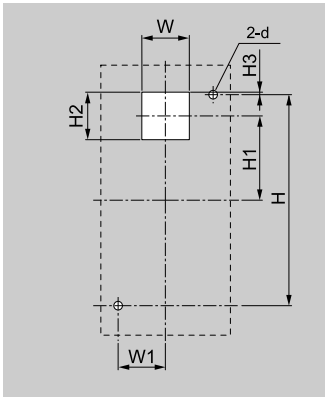

Figure 2.11 External/Face Mount Enclosure Panel Cut-Out Dimensions
1. Use the dimensions in Figure 2.11 and Table 2.5 to cut an opening in the control panel for the keypad.